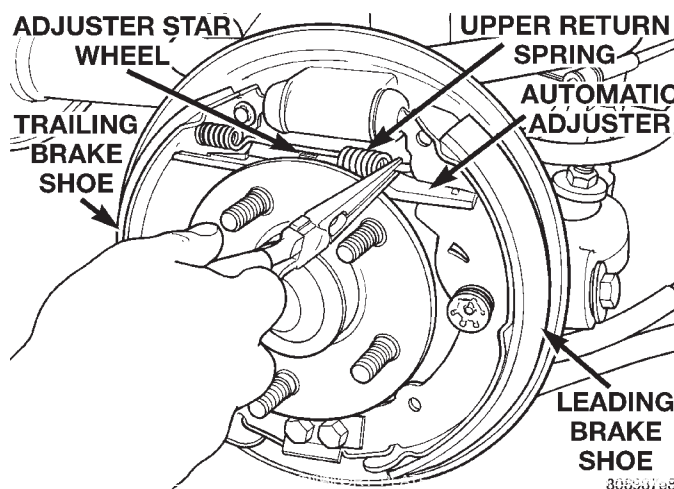

**Fig. 61 Brake Shoe Upper Return spring**
- (5) Thread the automatic adjuster star wheel (Fig. 61) all the way into the adjuster, removing all tension from the adjuster. Then remove the upper return spring (Fig. 61) from the brake shoes.
(9) Install the upper return spring on the brake shoes (Fig. 61)